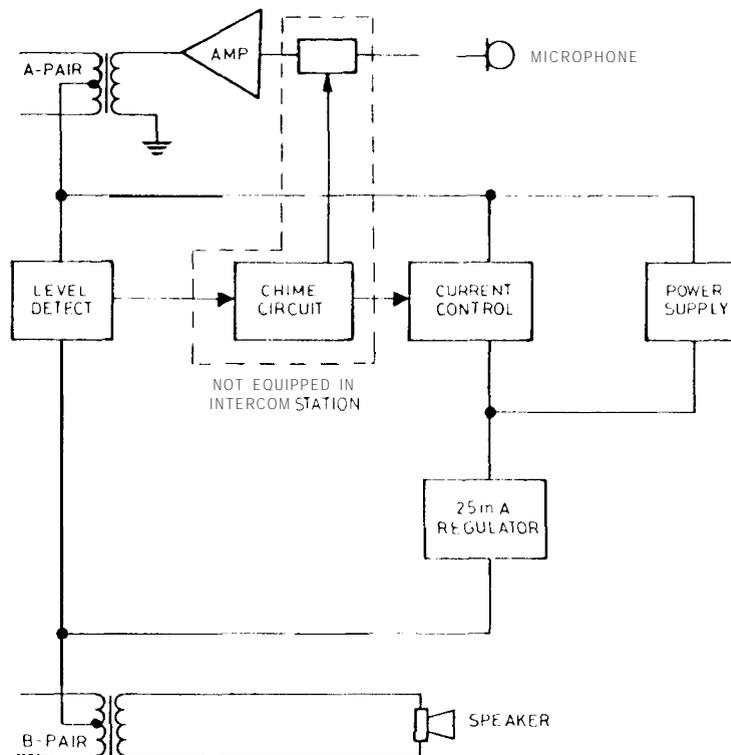

FIG. 9 - INTERCOM (DOOR) STATION BLOCK DIAGRAM
1.4.3.3 INTERCOM AND DOOR STATION (Figure 9)